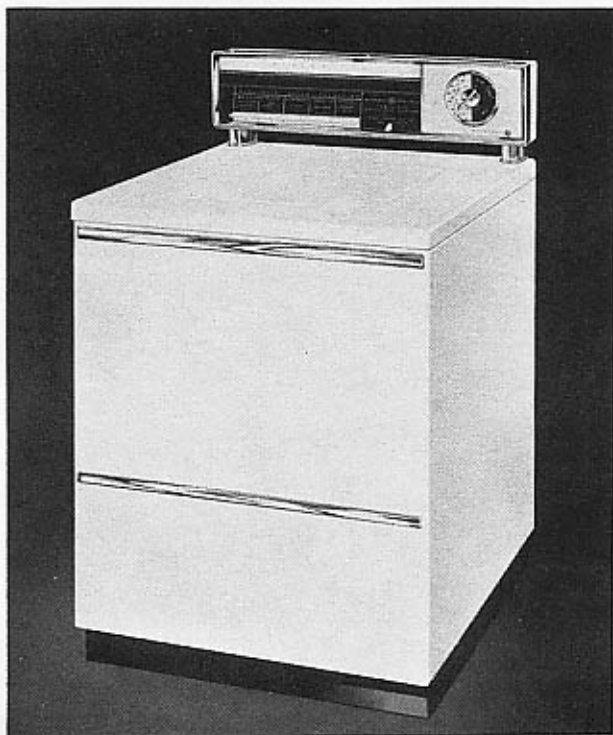
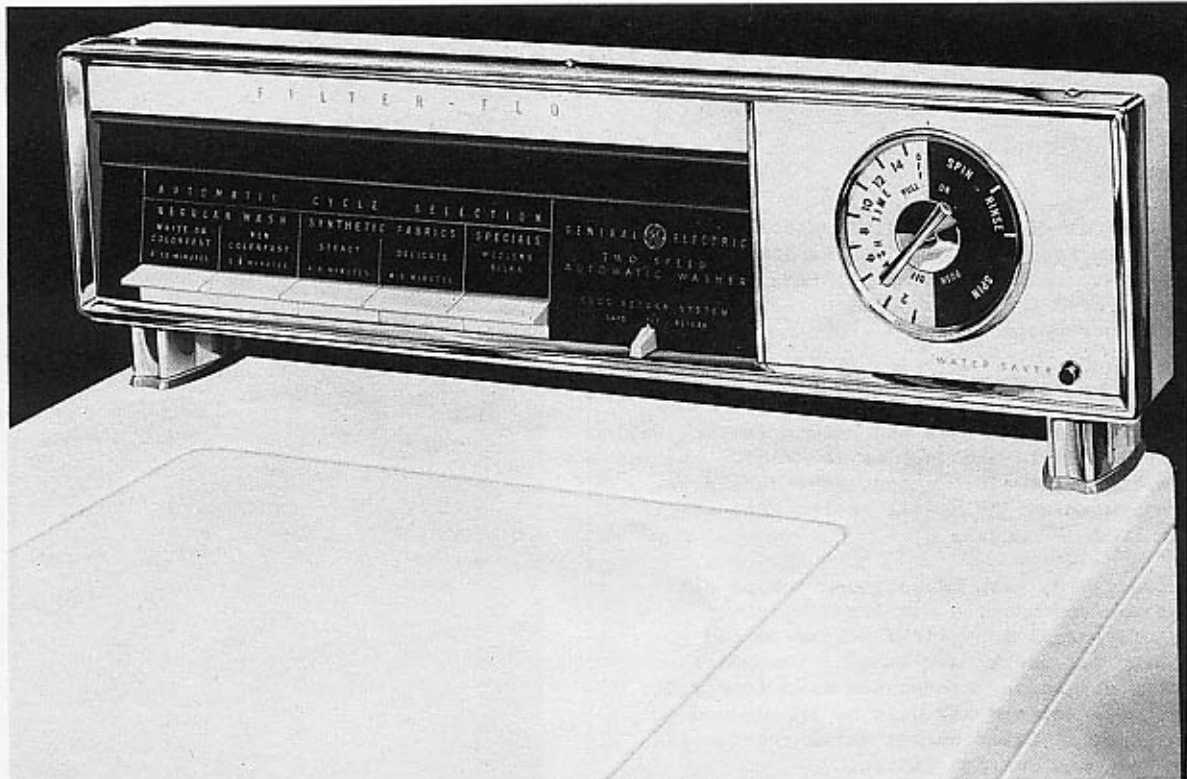

Fig. 1 - Model WA955R Automatic Washer
Fig. 2 - WA955R Backsplash
A top-of-the-line 1958 washer - model WA955R - is shown in Fig. 1. The appearance of the WA950R is exactly the same as that of the WA955R except that the suds save-return switch is omitted from the escutcheon (Fig. 2 - see following page). WA950R and WA955R models incorporate two new features not previously used on General Electric washers:
- 2) A two-speed automatic cycle with which the activation speed, spin speed, wash water temperature, and rinse water temperature are all automatically selected by pressing a button according to the type of fabric being washed. The fabric selection keys are shown in Fig. 2.